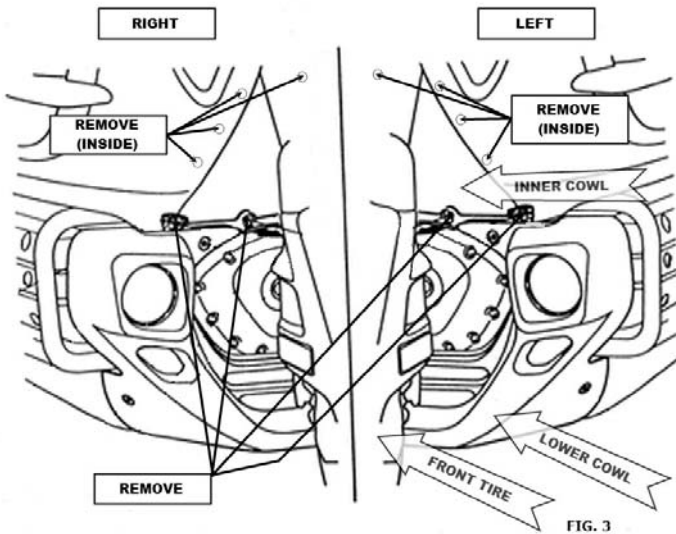

FIG. 3
9. REMOVE THE THREE PIECE INNER FRONT COWL FROM THE AREA BEHIND THE FRONT WHEEL OF THE BIKE. THERE ARE TWO ALLEN SCREWS ON THE TOP OF THE LOWER COWL AND SEVERAL PLASTIC RIVETS THAT FASTEN THE INNER COWL. REMOVE THE CENTER PIECE FIRST. (SEE FIG. 3)